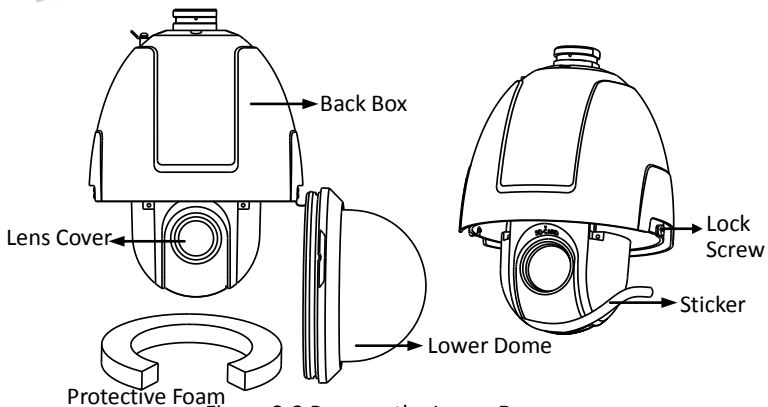

Figure 2-2 Remove the Lower Dome
1. Loosen the two lock screws on the both side of the speed dome. Pull the lower dome to separate it from the back box as shown in Figure 2-2.